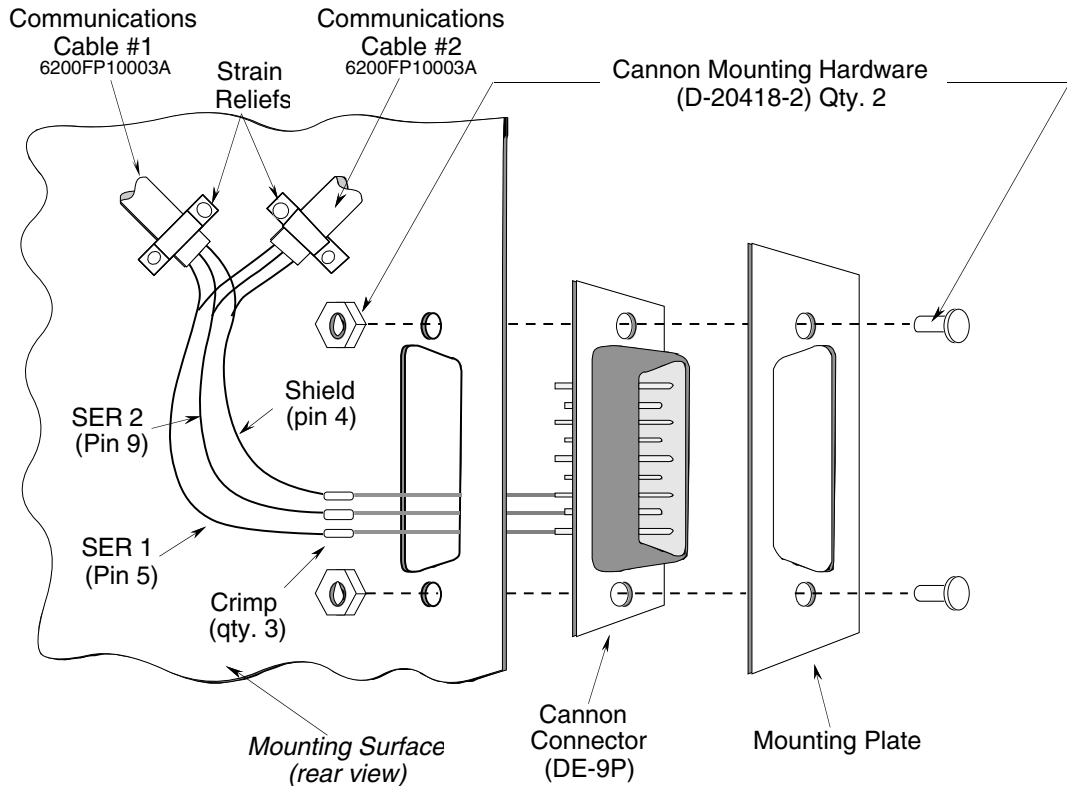

Figure 113. Adding a HHM Connector to a Field Bus
1. Attach the mounting plate and Cannon connector (DE-9P) to the mounting surface using two Cannon mounting hardware (D-20418). See Figure 113.